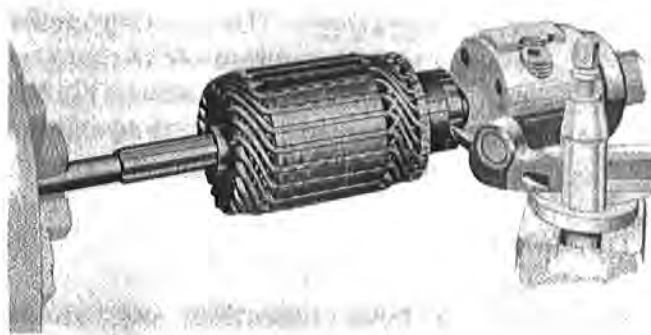

Figure 2 - Turning Starting Motor Commutator
4. Armature - Check the commutator for uneven wear, excessive glazing or evidence of excessive arcing. If only slightly dirty, glazed or discolored, the commutator can be cleaned with 00 or 000 sandpaper. If the commutator is rough or worn, it should be turned in a lathe. Figure 2. The armature shaft should be inspected for rough bearing surfaces and rough or damaged splines.